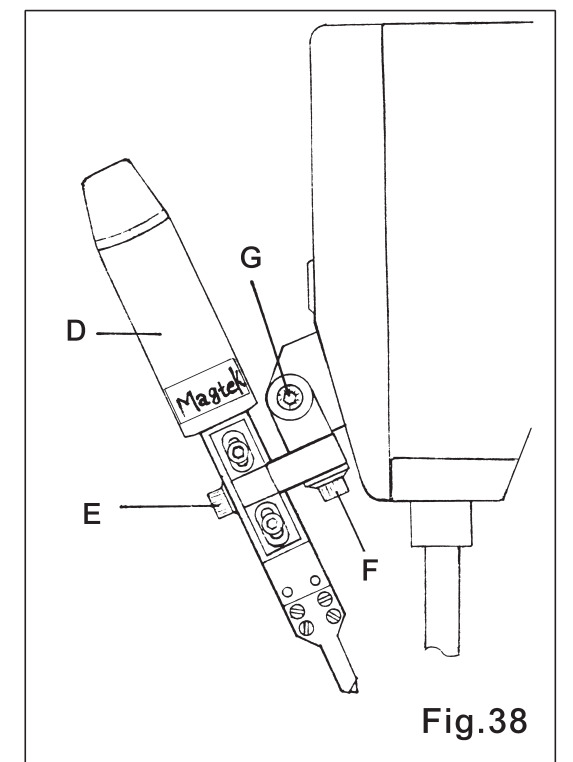

Fig.38
To adjust the above relative position, please loose three screws (E), (F), (G) of Top Trimmer Fixed Block for adjusting. (Fig.38)